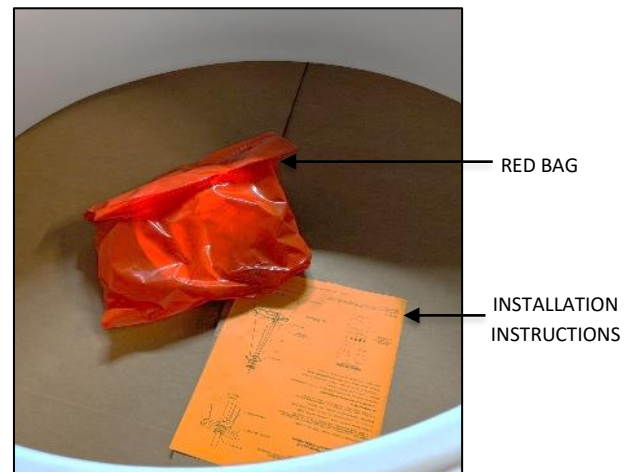

FIG. 4 RED BAG AND INSTALLATION
2. INSTALLATION INSTRUCTIONS (shown in FIG. 4) - Please completely read the install instructions before starting installation.
4. RED BAG (shown in FIG. 4) contains below following items.